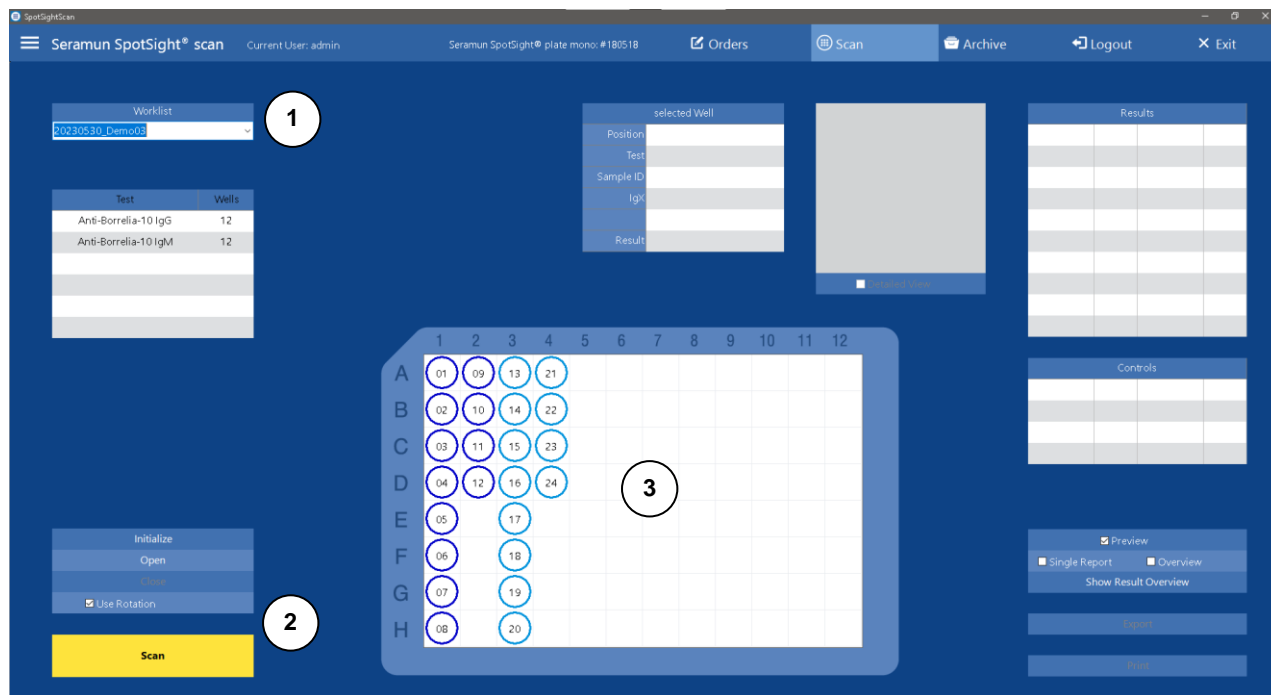

Figure 7: Page Scan (Seramun SpotSight® plate mono)
Page Scan (Figure 7) is used to image, analyze, and create reports for worklists containing SeraSpot® tests.
- *Select Worklist* – (Figure 7 ①) select an open worklist for imaging
The table below shows the tests contained in the worklist and the corresponding number of orders. The overview in the center of the page (Figure 7 ③) represents the microtiter plate and shows the arrangement of tests by displaying their color coding (colored rings). The arrangement must be identical with the actual arrangement of the test on the microtiter plate to be imaged.
On the bottom left control buttons to operate the device are displayed (Figure 7 ②).